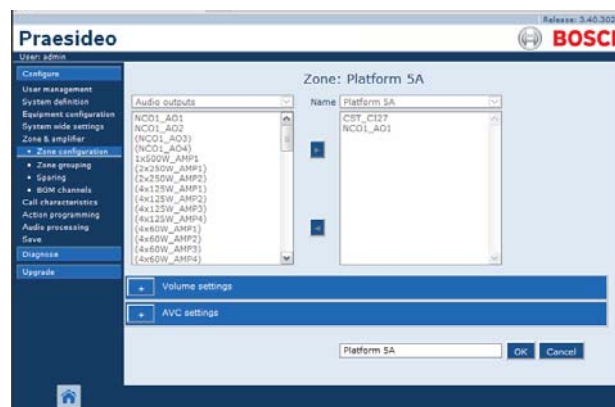

figure 45.8: Rename a zone, step 3
- 3 Click the *Rename* button to rename that zone. A screen similar to the one in figure 45.8 appears.